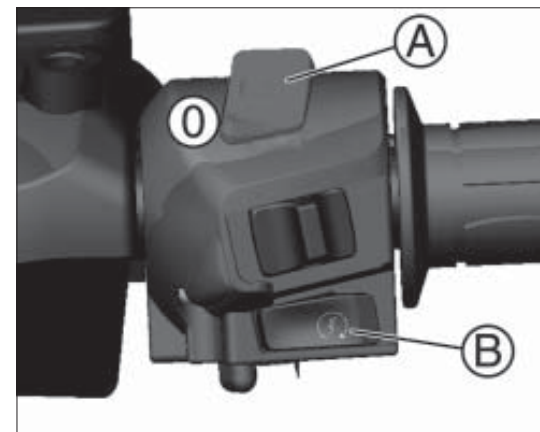

fig. 2
- ensure that button A Fig. 2 is in position 0;
- pull one of the two brake levers on the handlebar (or press the brake pedal) and press the starter button B fig.2.